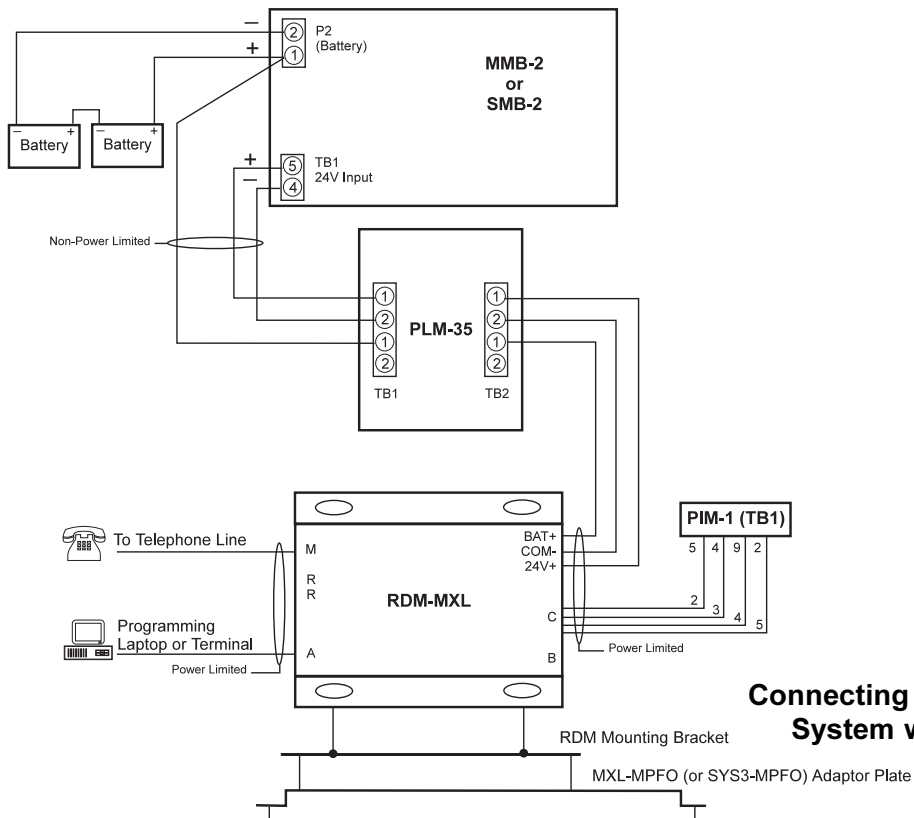

Figure 4
- For MXL Connection, refer to Figures 4 and 5.